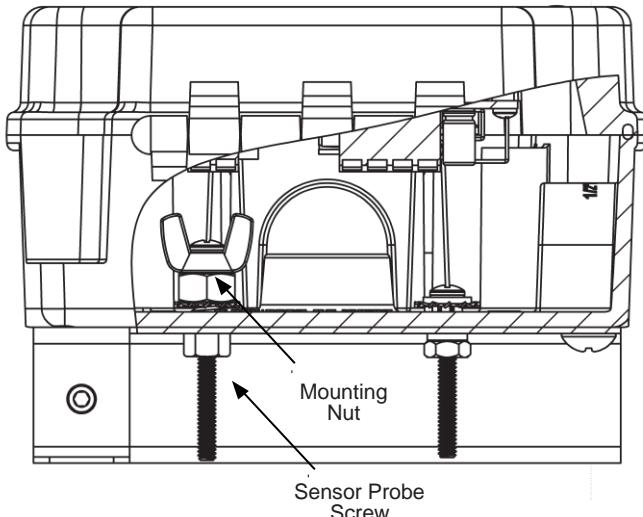

Figure 5: Leak Detector with Sensor in a BB Box
1. Set the transmitter where water is most likely to be a problem or in the collection pan under the water coil or heater (Figure 5).
2. Adjust the depth screw on the sensor probe in the middle of the open enclosure to the alarm depth (Figure 5). If using a remote water sensor, adjust the depth screw as shown in Figure 9. The rope sensor detects water 1/8" off the floor and has no adjustment.